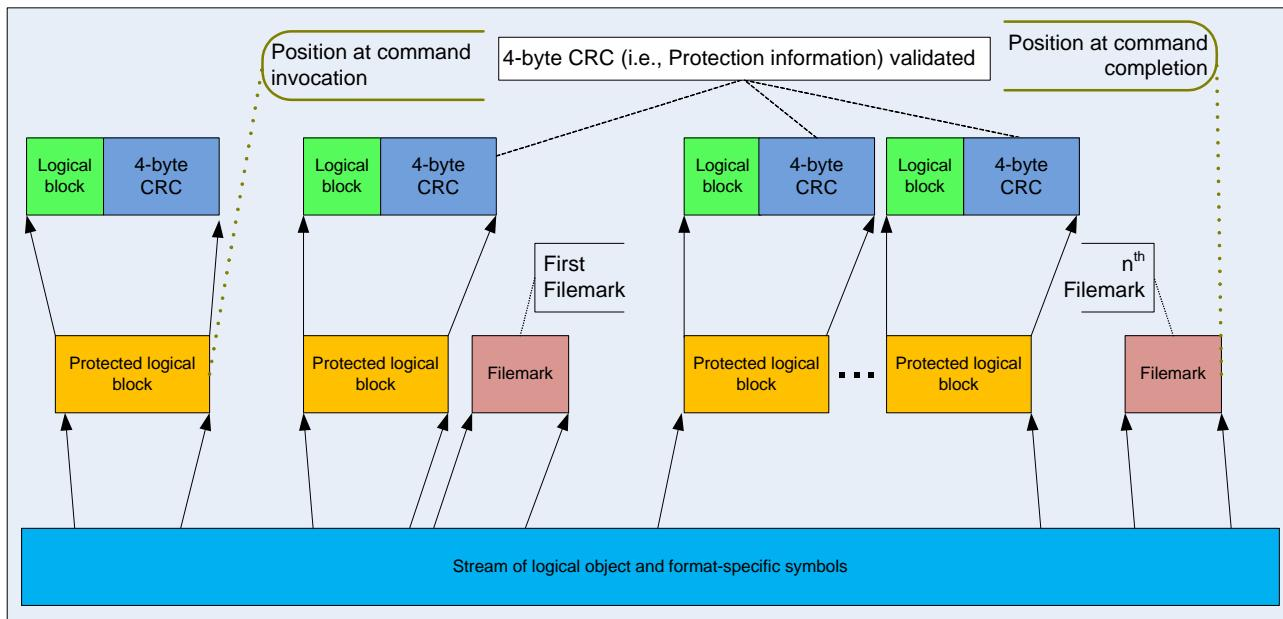

Figure 4 — Example file verification of protection information
An application client may verify that protection information is present on each logical block on the medium between the current position and a specified number of filemarks from the current position and that the protection information validates correctly by using the VBF and VLBPM bits of the VERIFY (6) command (see 5.2.37 on page 222) and setting to one the LBP_R bit of the Control Data Protection mode page (see 6.4.8 on page 300). The device reads the medium verifying that each logical block between the current position and the n^{th} filemark is protected with the protection information using the LOGICAL BLOCK PROTECTION METHOD specified in the Control Data Protection mode page and that the protection information validates as shown in *figure 4*.